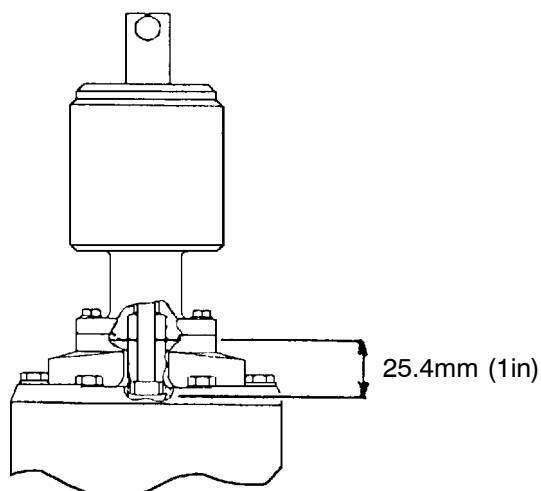

Fig 5.6 Shaft setting
- 11.8 With the main valve assembly pushed to the fully open position, adjust the actuating rod so that the top of the rod is flush with the top face of the cover as shown in figure 5.6. On completion of adjustment tighten the special nut (11).